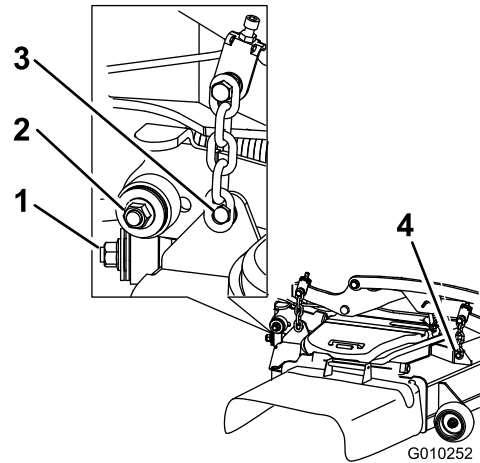

Figure 99
- Remove and retain the hardware on both sides of the deck as shown in Figure 99.